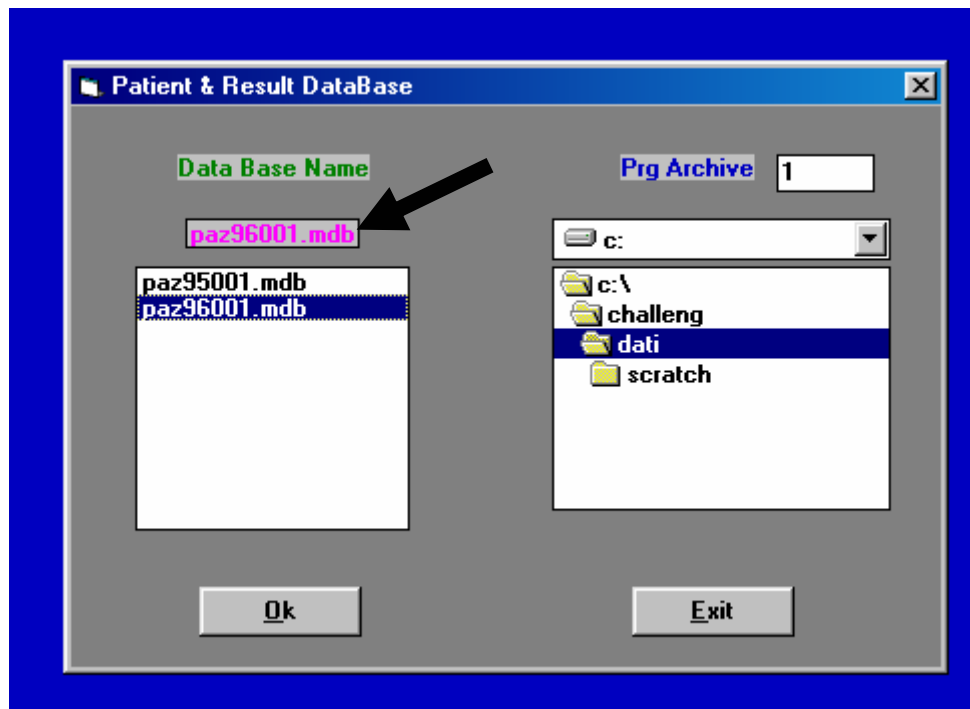

Figure IV-13 : Database
2. You can have several databases used. The name of the currently selected database is written in pink (see Figure IV-13).